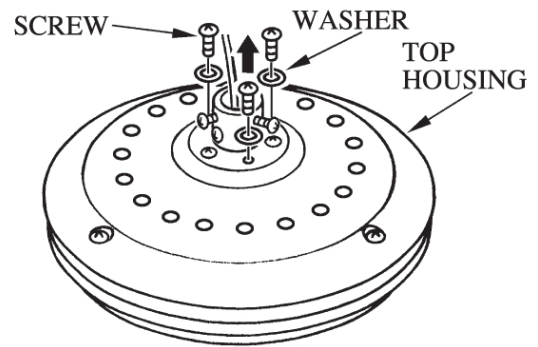

FIG.1
1. Pull out 3 screw on the top housing (see Fig.1)